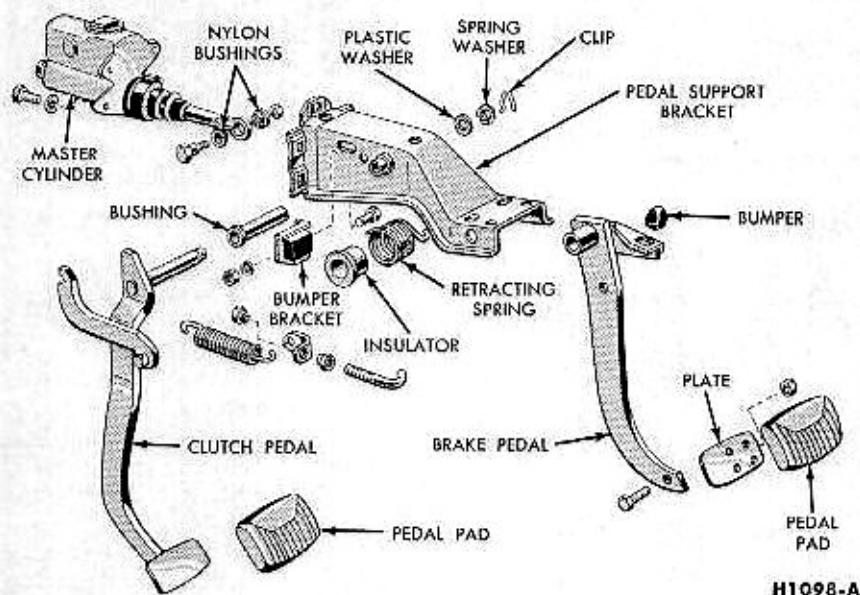

FIG. 11—Brake Pedal and Related Parts
10. Position the pedal assembly in the pedal support bracket (Fig. 11). Insert the brake pedal shaft and bushing from the right side of the support bracket and push the shaft all the way through the bracket. Install the plastic washer and spring washer on the left-hand end of the brake
4. With a screwdriver, unseat the retracting spring from the brake pedal and from the hole in the pedal support bracket (Fig. 11).
6. Remove the 5 nuts and lockwashers which attach the master cylinder and pedal support bracket to the dash panel (Fig. 11). Remove the cylinder from the mounting bolts, sliding the boot from the push rod.
15. Turn the pedal support bracket to the right, position the brake pedal assembly in the support bracket, insert a 1/2-inch diameter drift in right side of support bracket to maintain alignment of the brake pedal assembly (Fig. 11).